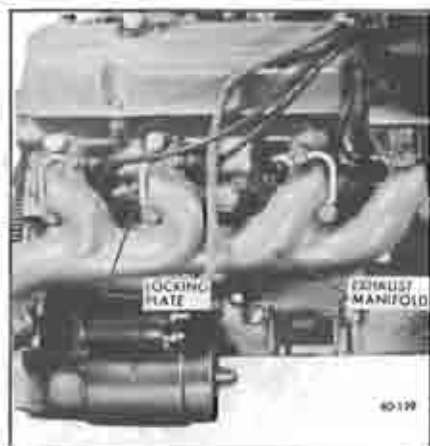

Figure 60-129—Exhaust Manifold Installation
3. Assemble exhaust manifold to cylinder head with bolts and locking plates as shown in Figure 60-129. Torque bolts to 10-15 lb. ft.